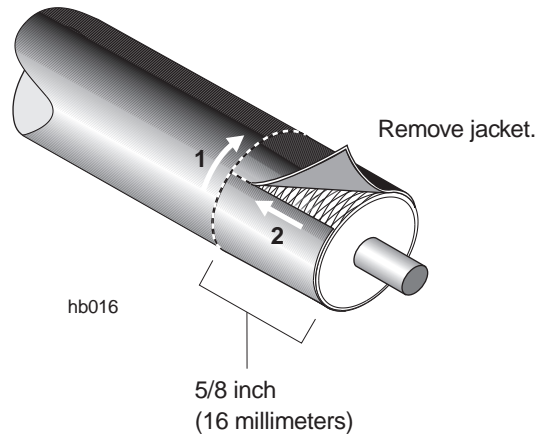

Figure C-4 Cutting and removing the jacket
5. Using a razor knife, *carefully* slit the outer jacket as shown in figure C-4.
6. Using the razor knife or a pair of diagonal cutters, lift the jacket and peel it away as shown in figure C-4.